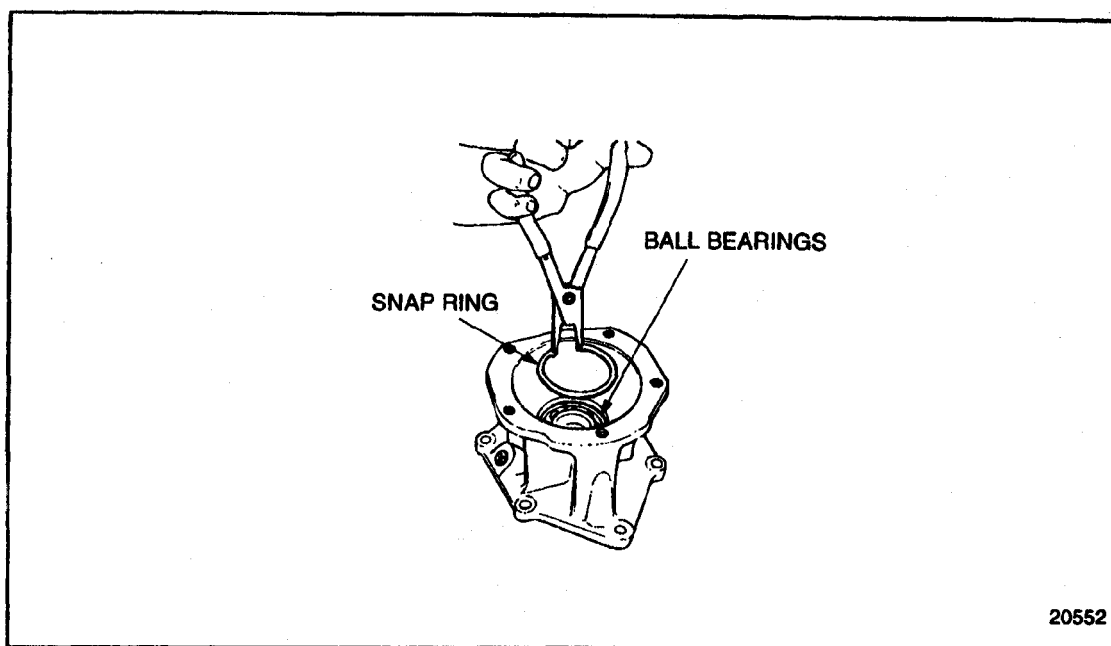

Figure 10-19 Roller Bearing Snap Ring Removal
11. Remove the large snap ring retaining the ball bearing in the drive hub housing using snap ring pliers. See Figure 10-19.